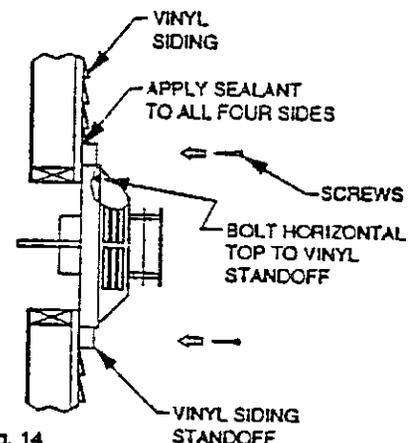

Fig. 14
Position the horizontal vent termination in the center of the 11 1/2" x 12" hole, and attach to the exterior wall with the four wood screws provided. Before attaching the Vent Termination to the exterior wall, run a bead of non-hardening mastic around its outside edges, so as to make a seal between it and the wall. The arrow on the vent cap should be pointing up. Insure that proper clearances to combustible materials are maintained. (Figure 14)
(1) The four wood screws provided should be replaced with appropriate fasteners for stucco, brick, concrete, or other types of sidings.
(2) For buildings with vinyl sidings, a Vinyl Siding Standoff (Part 950), should be installed between the vent cap and the exterior wall. (Figure 14). Attach the Vinyl Siding Standoff to the Horizontal Vent Termination. The Vinyl Siding Standoff prevents excessive heat from possibly melting the vinyl siding material.